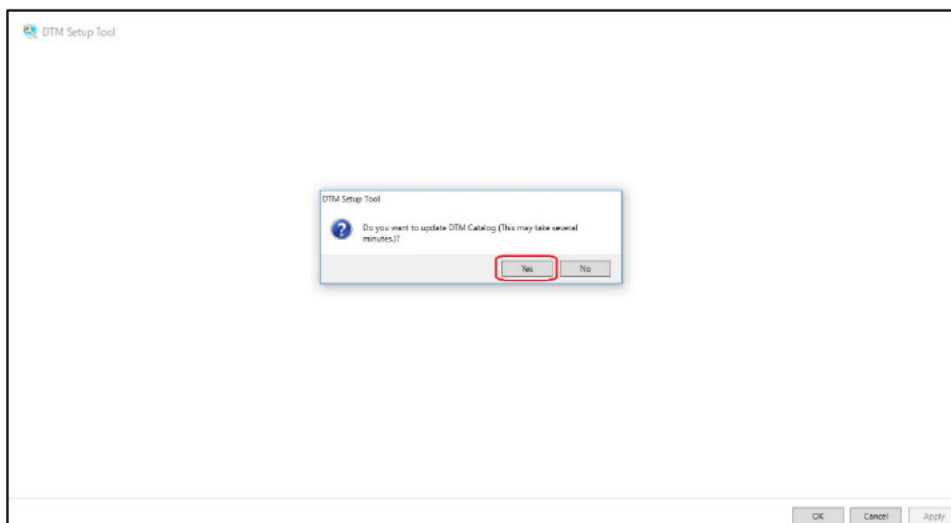
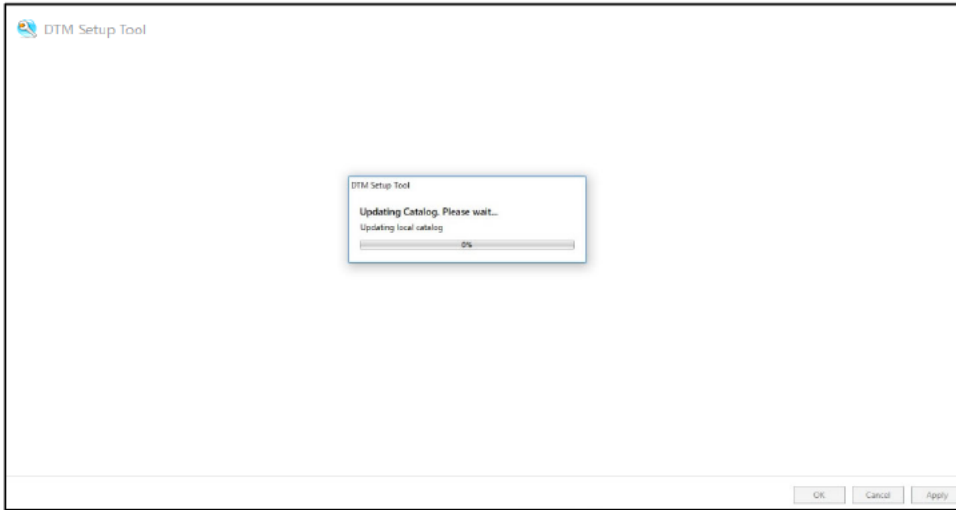

Figure 5-2 DTM Setup Tool (DTM catalog update confirmation)
Figure 5-3 DTM Setup Tool (DTM catalog update in progress)
- ② Select "Yes" to update the DTM catalog. (Figure 5-2 and Figure 5-3)